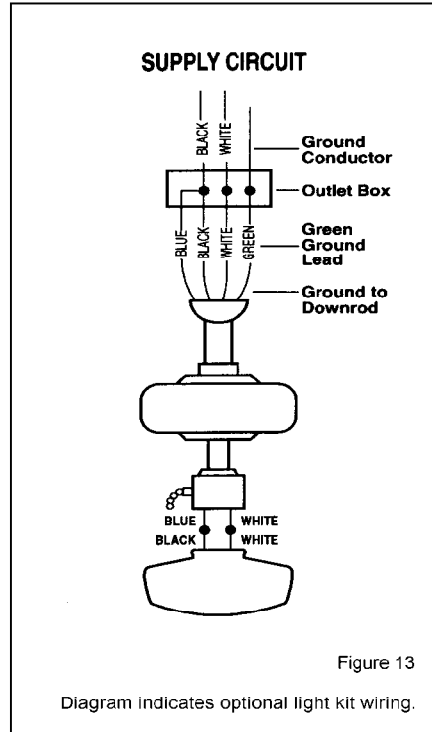

Figure 13
**Step 3** Connect the fan light supply (blue) wire and the fan supply (black) wire to the black household supply wire as shown in Figure 13.